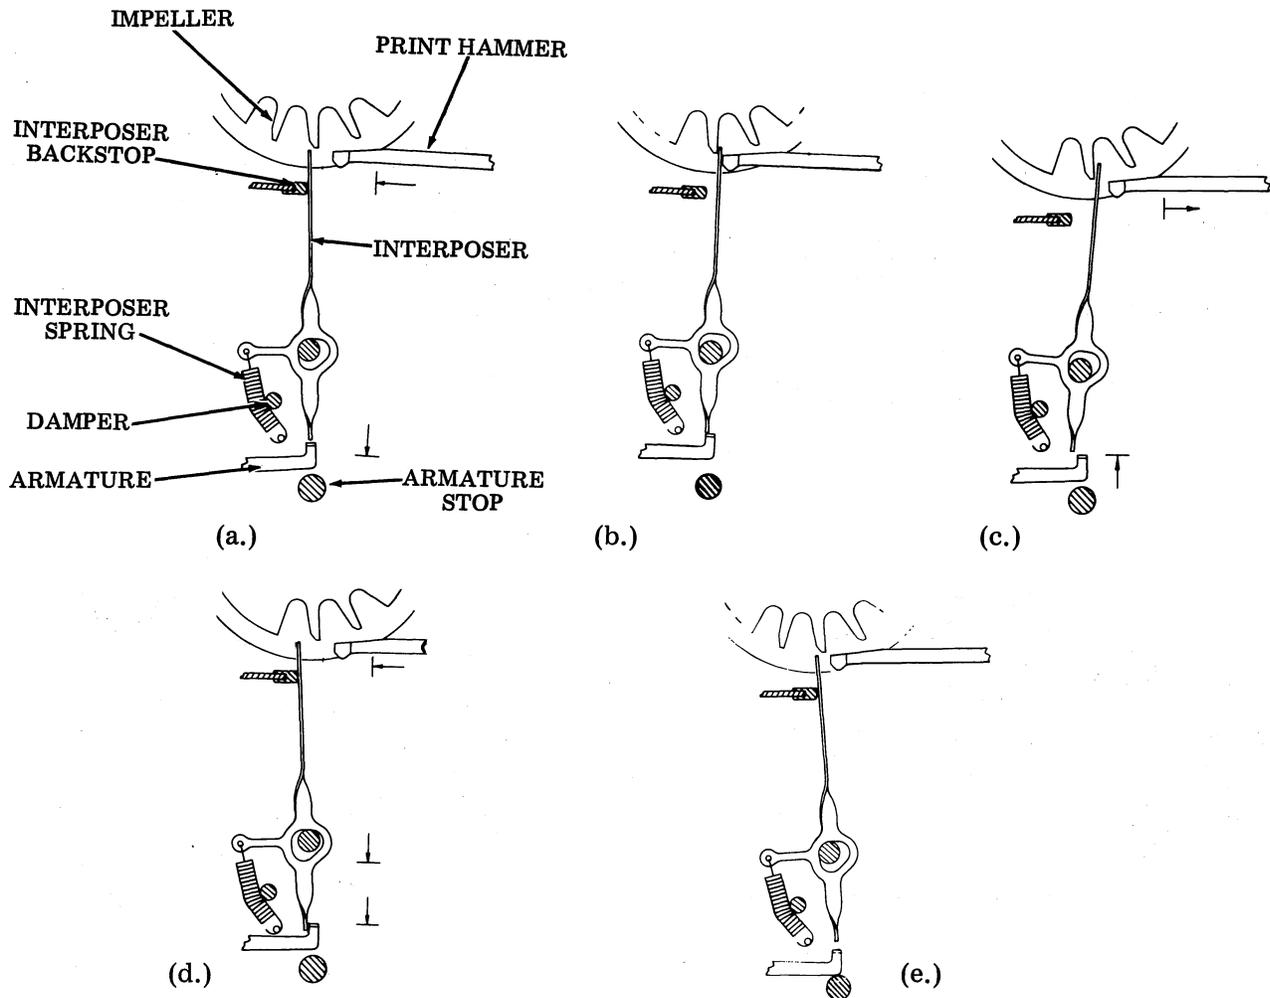

Fig. 43
J. Firing the Print Hammer (Fig. 43)